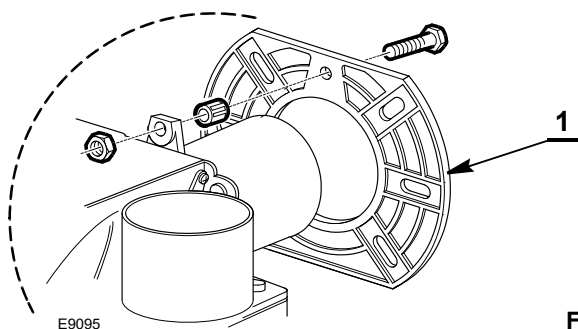

Fig. 5
- Put on the flange 1)(Fig. 5) the screw and two nuts.